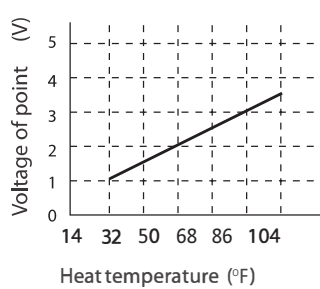
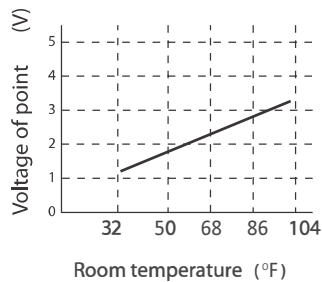

Fig. 6-1
Fig. 6-2
- The relationship between the temperature of the thermistor and the circuit voltage is roughly as shown in Fig.6-1 and Fig.6-2.